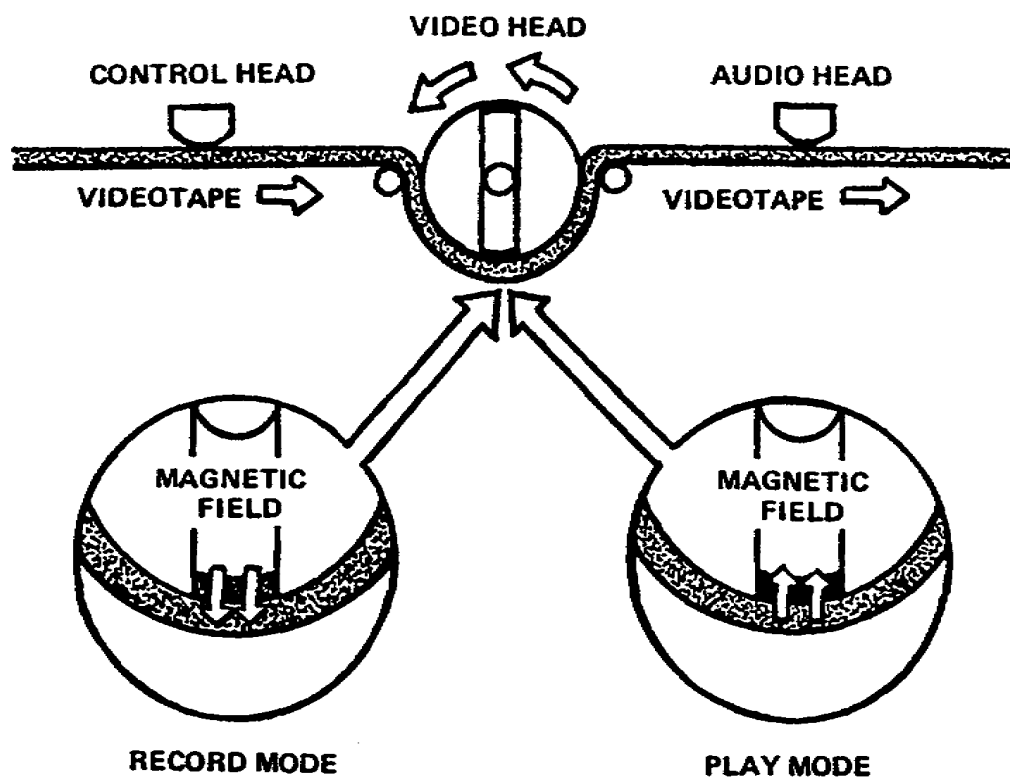

Figure 1-13. Position of erase, record, and play (reproduce) heads
7. When we move the recorded tape past the gap in a reproduce head (fig 1-13) the magnetic flux on the moving tape will induce a voltage in the head coil.